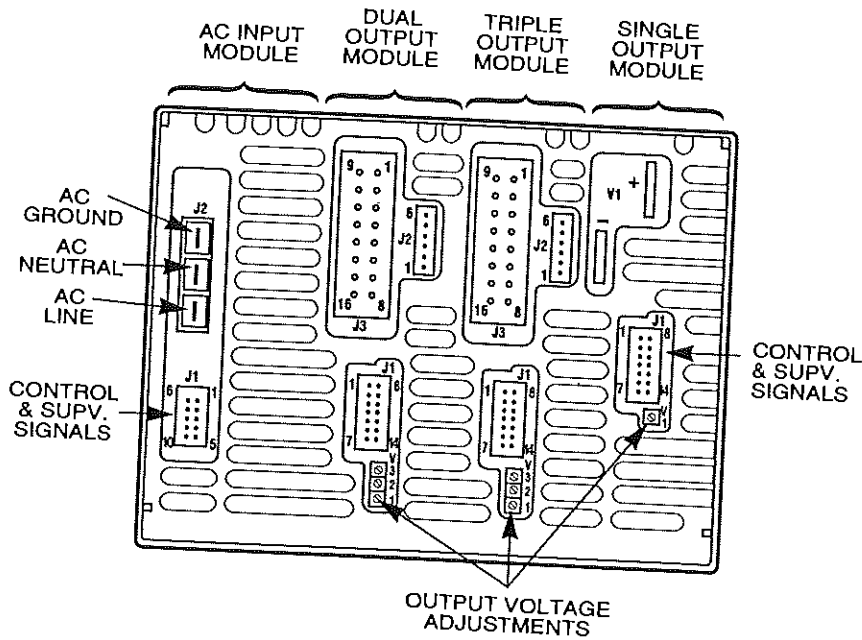

Figure 4. ULTIMOD S Series Front Panel View.
6.1 A typical ULTIMOD S Series front panel configuration is shown in Fig. 4. At the left side is the AC Input Module which has an AMP input connector for the three AC input connections and a 10-pin Molex connector for connecting to the control and supervisory signal inputs and outputs.
9.2 **Outputs.** For single-output modules, output power connections are made to tin-plated copper bus bars. The top bar is positive and the bottom one negative. See Fig. 4. Each bar has a 0.261 inch (6.6mm) diameter hole which accommodates a 1/4-20 bolt for making the connection. The connecting wire or lug should be clean and securely connected to the bus bar to reduce contact resistance.